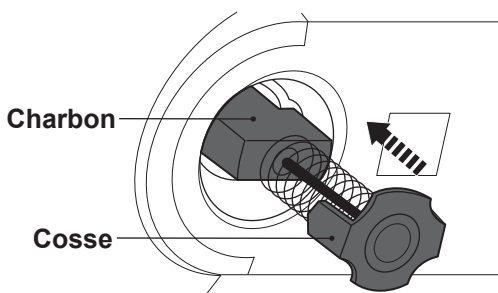

Fig. 12
- > Carefully refit the new carbon brushes into the motor housing. The two metal tabs on the carbon brush terminal shall be fitted into the same opening as the carbon brushes (Fig. 12).